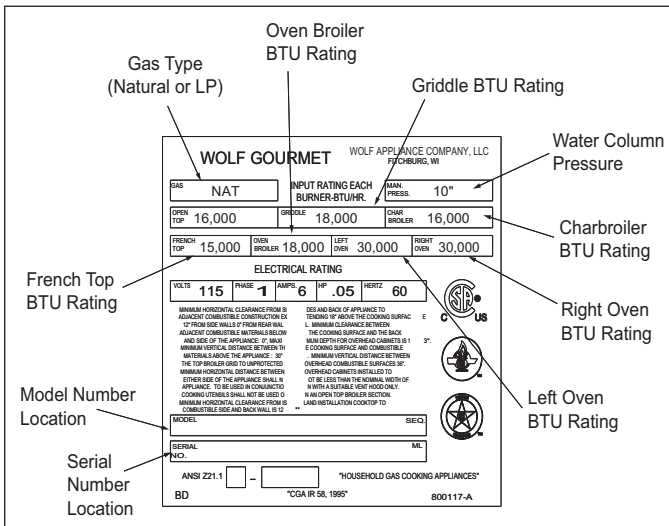

Figure 1-1. Typical Serial Plate Layout
- See Figure 1-1 for typical serial plate layout.